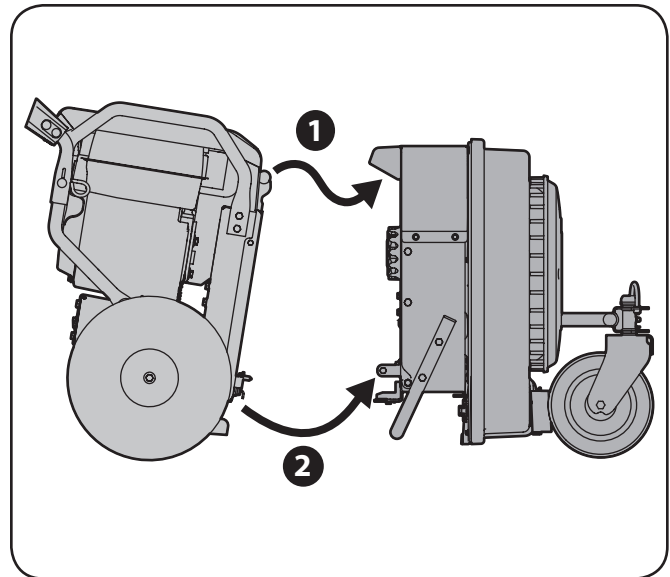

Figure 4-2
2. Tip the FLEX™ Power Base forward, engaging the top mounting tab with the mounting handle on the leaf blower attachment. See (1) of Figure 4-2.
3. Once the top mount is engaged (1), with both hands on the handles, swiftly tip the power base backwards to engage the bottom mounts (2). See Figure 4-2.